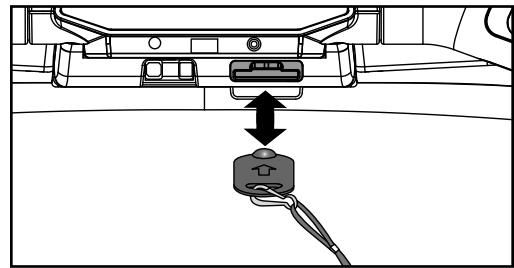

Figure 3
**The function of the emergency stop:** The e-stop key functions as the emergency stop. In an emergency situation, remove the e-stop key from the treadmill and the running belt will come to a stop. See Figure 3.